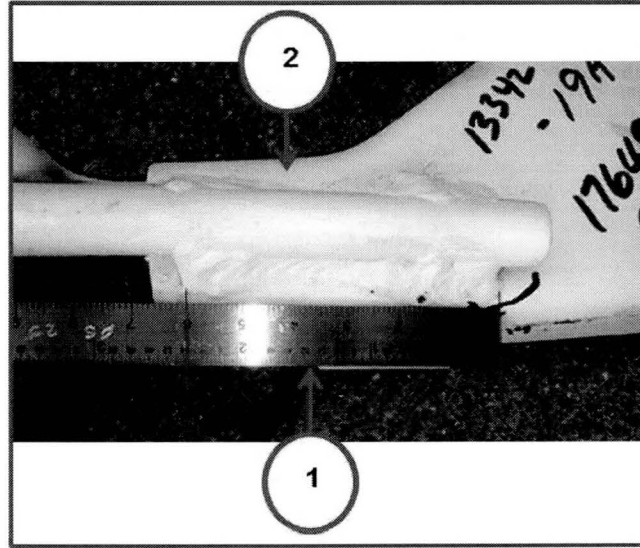

Fig. 6 Reinforce Weld to a Length of 60mm
- 21. Add additional flare-groove weld length with GTAW ("TIG" weld) using a 90-degree torch with a stub back-cap adding 409SS wire to reach a minimum required length (60mm (2.36 in.)) on each side of the hanger rod (Fig. 6). The GTAW power supply should be set to a mode with High Frequency (HF) in Start Only: HF shuts off shortly after the arc is established. This gives better protection to electronic system components.